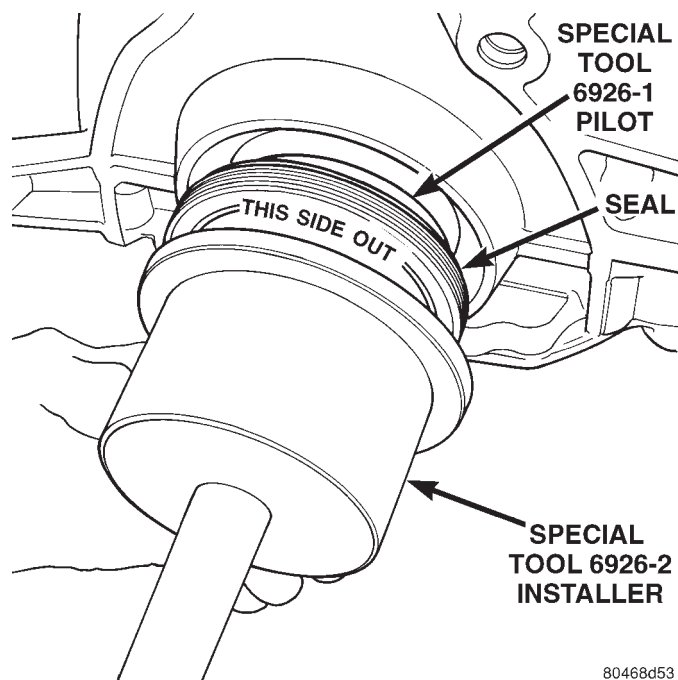

Fig. 73 Crankshaft Seal Special Tool 6926-2
(3) Drive the seal into the block using Special Tool 6926-2 and handle C-4171 (Fig. 73) until the tool bottoms out against the block (Fig. 74).